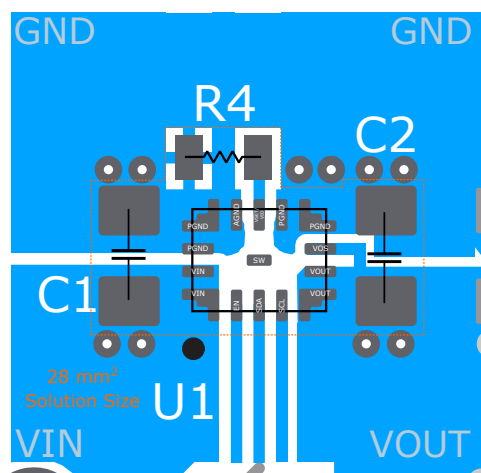

Figure 9-26. Layout Example
- Refer to Figure 9-26 for an example of component placement, routing, and thermal design.